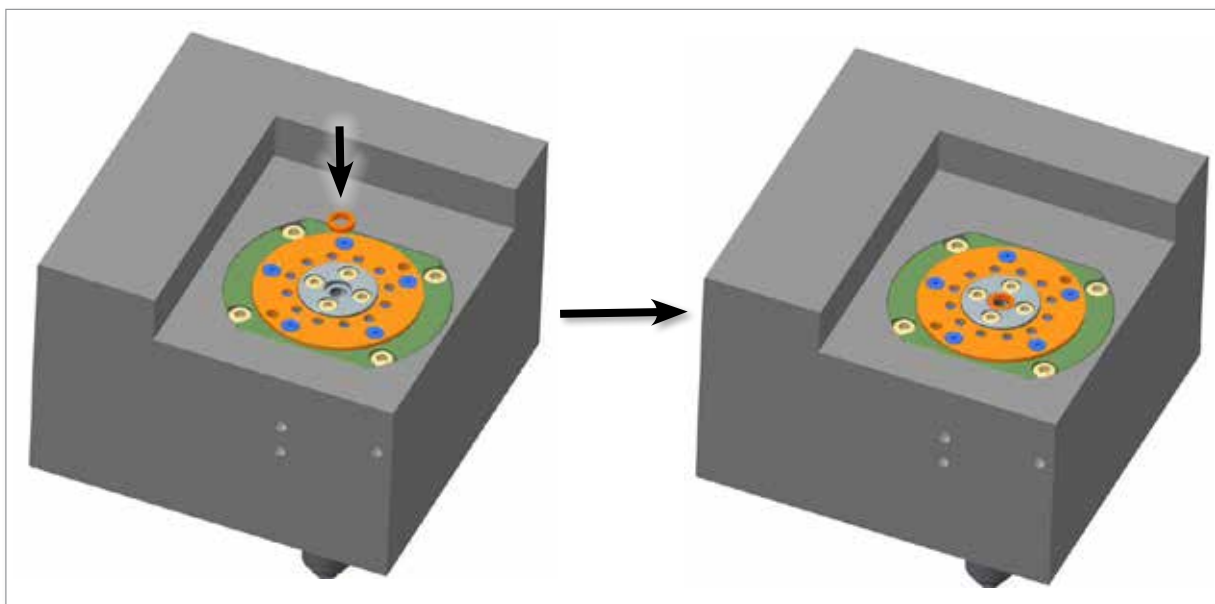

Figure 11-27 Attach inlet seal to heated body
8. After turning the manifold plate, attach the inlet seal to the heated body. Check all the connections and actuations. See Figure 11-27.